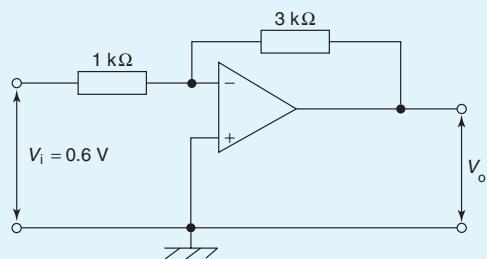

Figure 19.26
4. The output voltage, V_o , in the amplifier shown in Fig. 19.26 is:
5. The $3 \text{ k}\Omega$ resistor in Fig. 19.26 is replaced by one of value $0.1 \text{ M}\Omega$. If the op amp has an input bias current of 80 nA, the output offset voltage is: